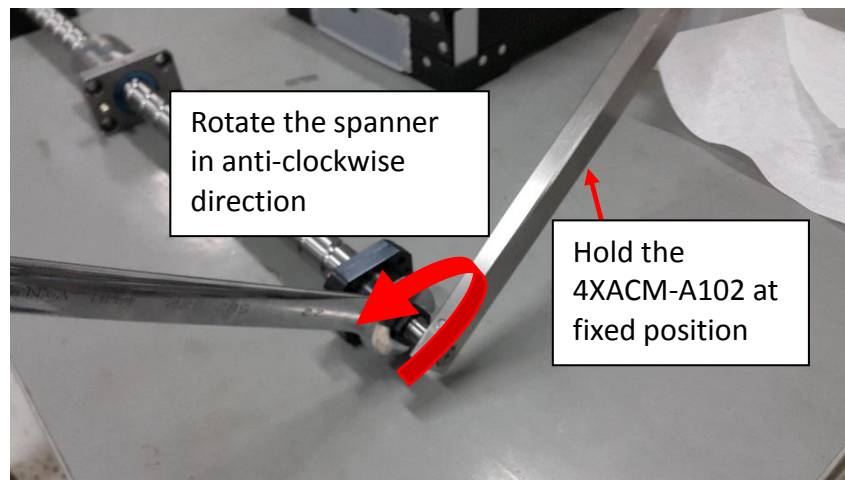

Figure 13 Ball Screw Nut Opening
14. Hold the 4XACM-A102 at the fixed position; rotate the spanner in the direction of anti-clockwise to remove the nut as shown in Figure 13.